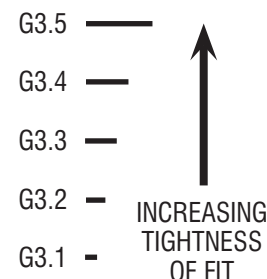

Fig. I20
- * **IF TOO LOOSE:** Try another template guide that is higher up the chart (Fig. I20). For example, if you used G3.2, you would want to use G3.3, G3.4 or G3.5.
- * **IF TOO TIGHT:** Try another template guide that is lower down the chart (Fig. I20). For example, if you used G3.3, you would want to use G3.2 or G3.1.